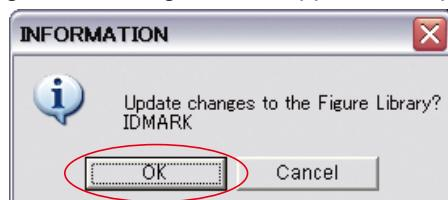

Figure 1-10 Fiducial Mark 2
Step25: Press **Update**. The dialog shown in Figure 1-10 appears and press **OK**.